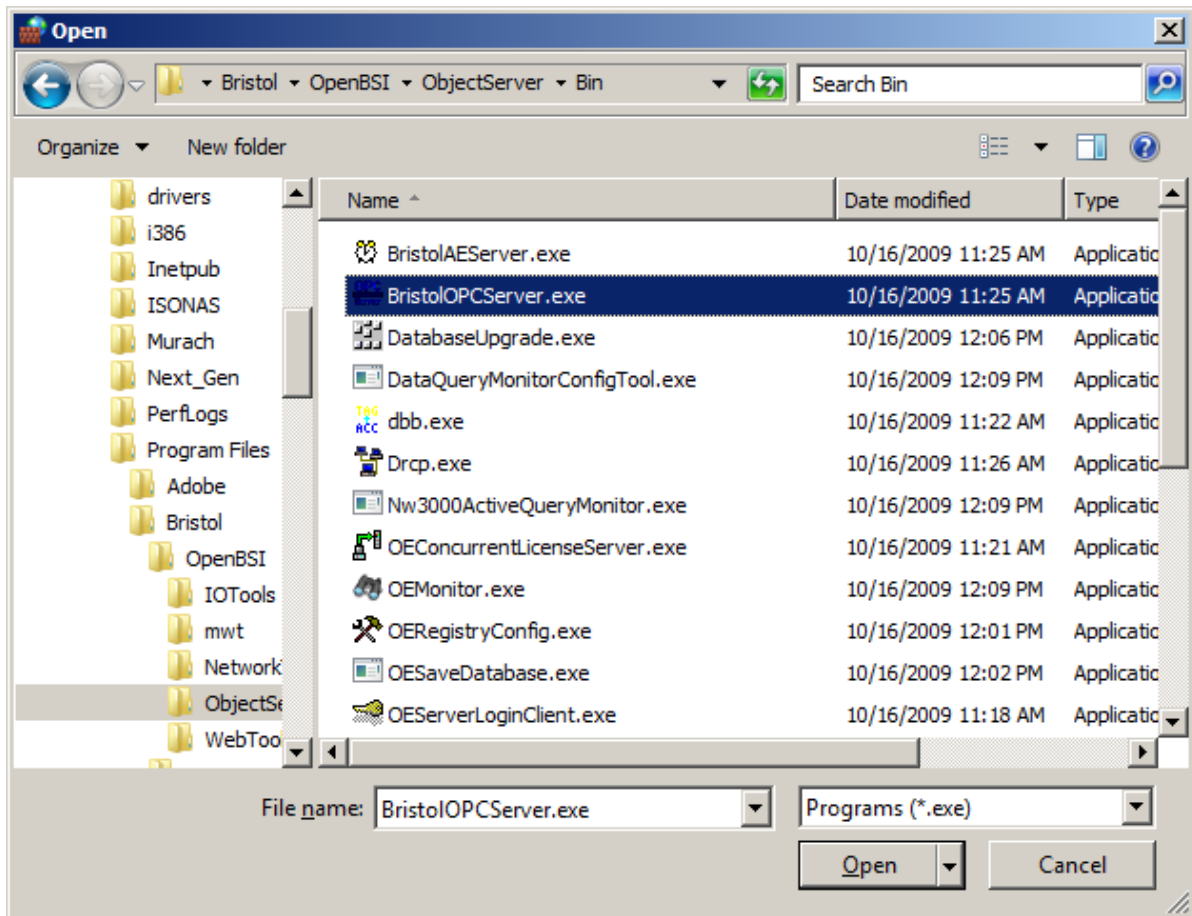

Figure 2-56. Selecting BristolOPCServer
7. Select BristolOPCServer.exe, as shown in *Figure 2-56* then click **Open**.